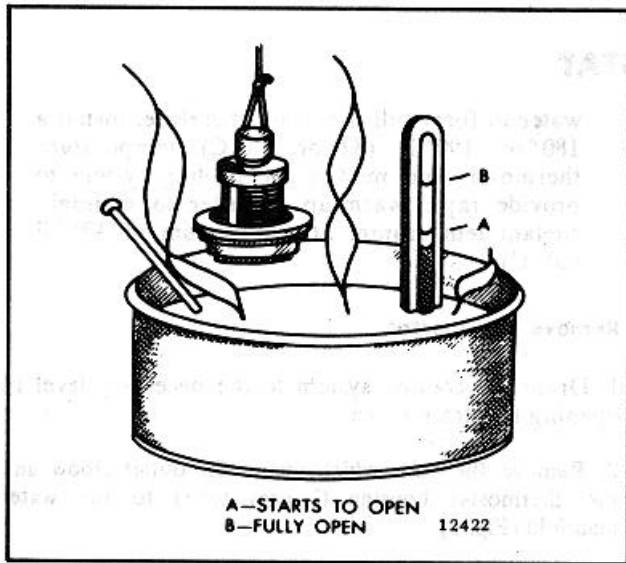

Fig. 2 - Method of Checking Thermostat Operation
1. Immerse the thermostat in a container of water (Fig. 2).